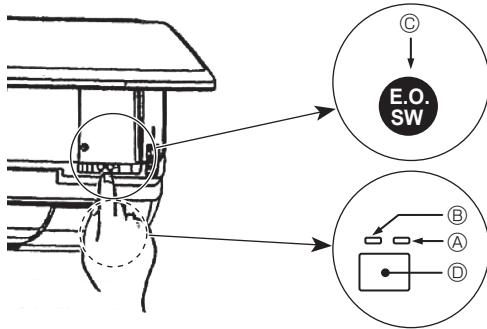

Fig. 5-1
- [Fig. 5-1] ① DEFROST/STAND BY lamp (Orange)
② Operation lamp (Green)
③ Emergency operation switch (cooling/heating)
④ Receiver
- Check “COOL/HEAT” with the operation monitor display. (The orange lamp ① follows this monitor display for 5 seconds after pressing the emergency operation switch.)